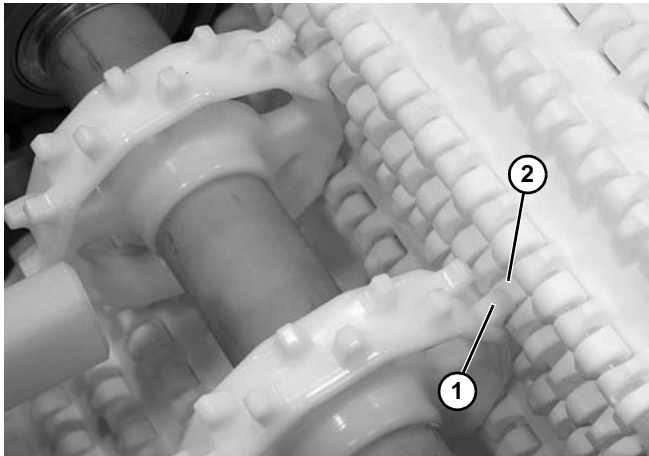

Figure 14
3. Wrap the belt around the drive end of the conveyor. Make sure that the sprocket teeth have engaged the belt, with concave teeth (**Figure 14, item 1**) mating with rounded section (**Figure 14, item 2**) of belt.